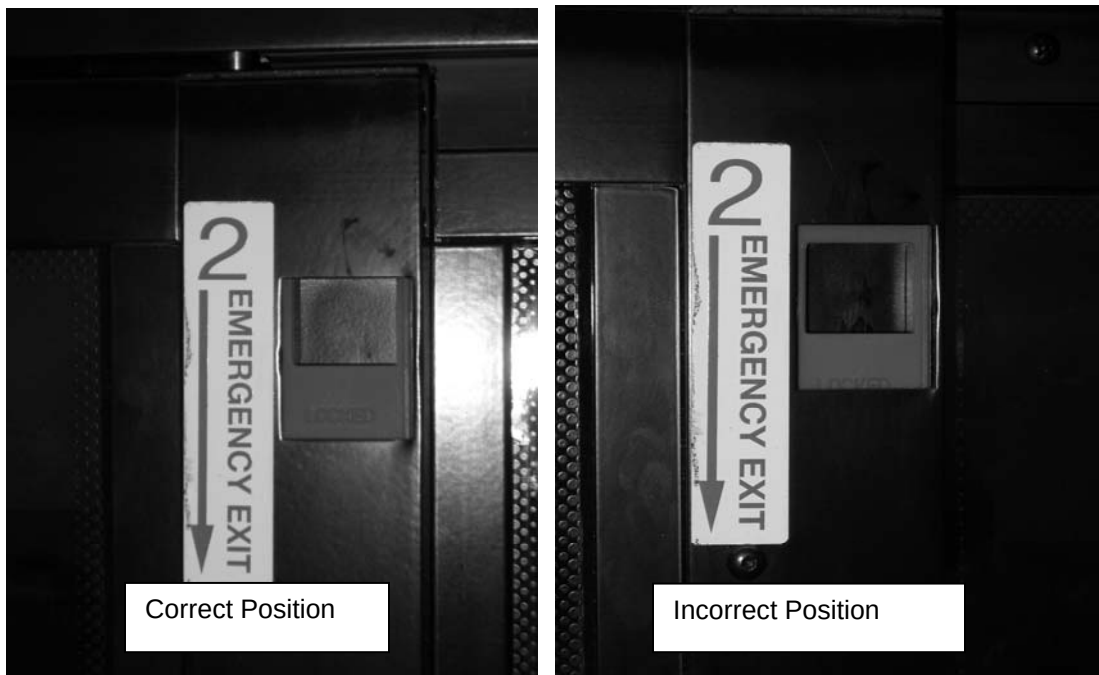

FIGURE 46: RELEASE LATCH PROPER POSITION
6. Confirm that both latches are in the closed (latched) position. The upper edge of the latch opening must be aligned with upper edge of the sash opening (Figure 46)
Unless otherwise noted, body panels and doors should be aligned and centered with surrounding panels. In general, a gap of $\frac{1}{4}$ inch (6 mm) is desirable between panels. Refer to figure 46 for specified gaps.